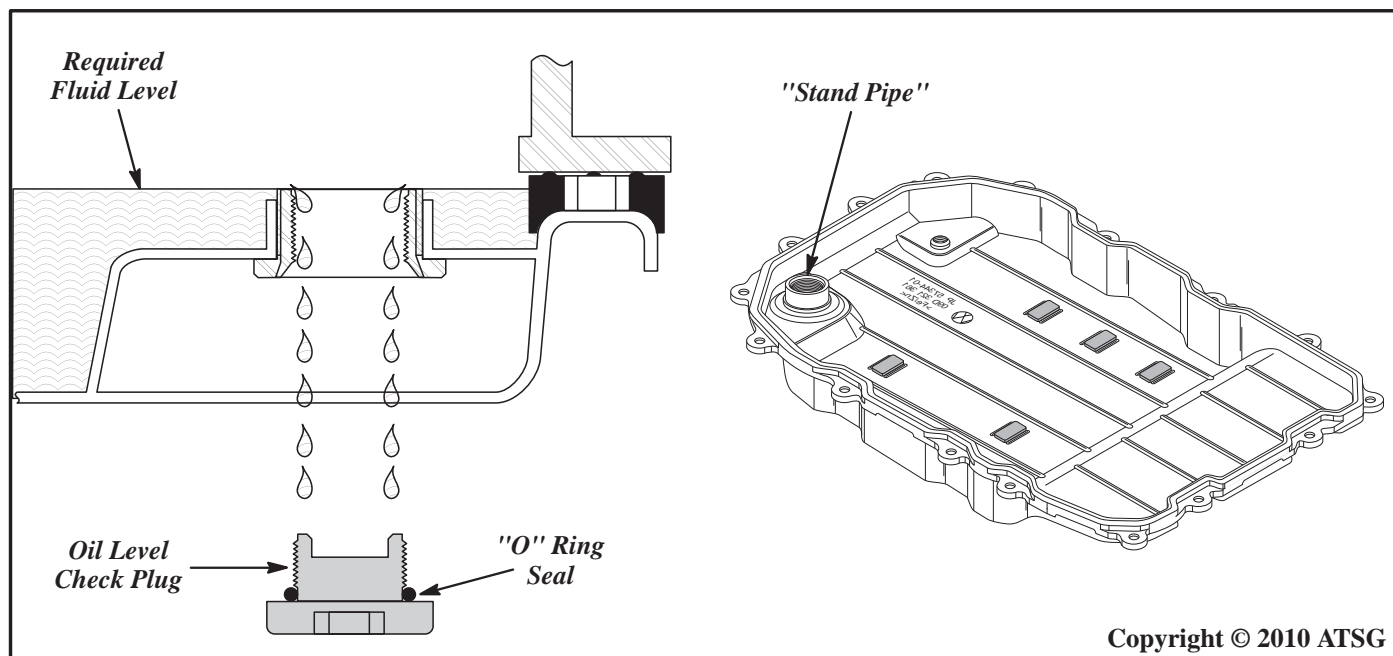

Figure 4
To **"Check"** for the correct fluid level, you must remove the "check" plug, which is located in the corner of the pan, and is removed with a 16 mm allen wrench, as shown in Figure 4 and 5.
We have provided you with a cut-away drawing of the bottom oil pan and the check plug so that you will understand how this system works. Notice that the oil pan actually has a "stand-pipe", as shown in Figure 4, that is stamped into and extends up above the pan rail, and is our way to establish the proper fluid level in the transmission.
- (A) Engine must be running and the manual shift lever placed in the Park position.
- (B) Transmission must be at operating temperature and parked on level surface.
- (C) By removing the "Check" plug from the oil pan, the fluid should just trickle over the "stand-pipe" and out through the center of the stand-pipe in the oil pan, as shown in Figure 4.
- (D) Always replace the "O" ring on the check plug and torque check plug to 28 N·m (20 ft.lb.)